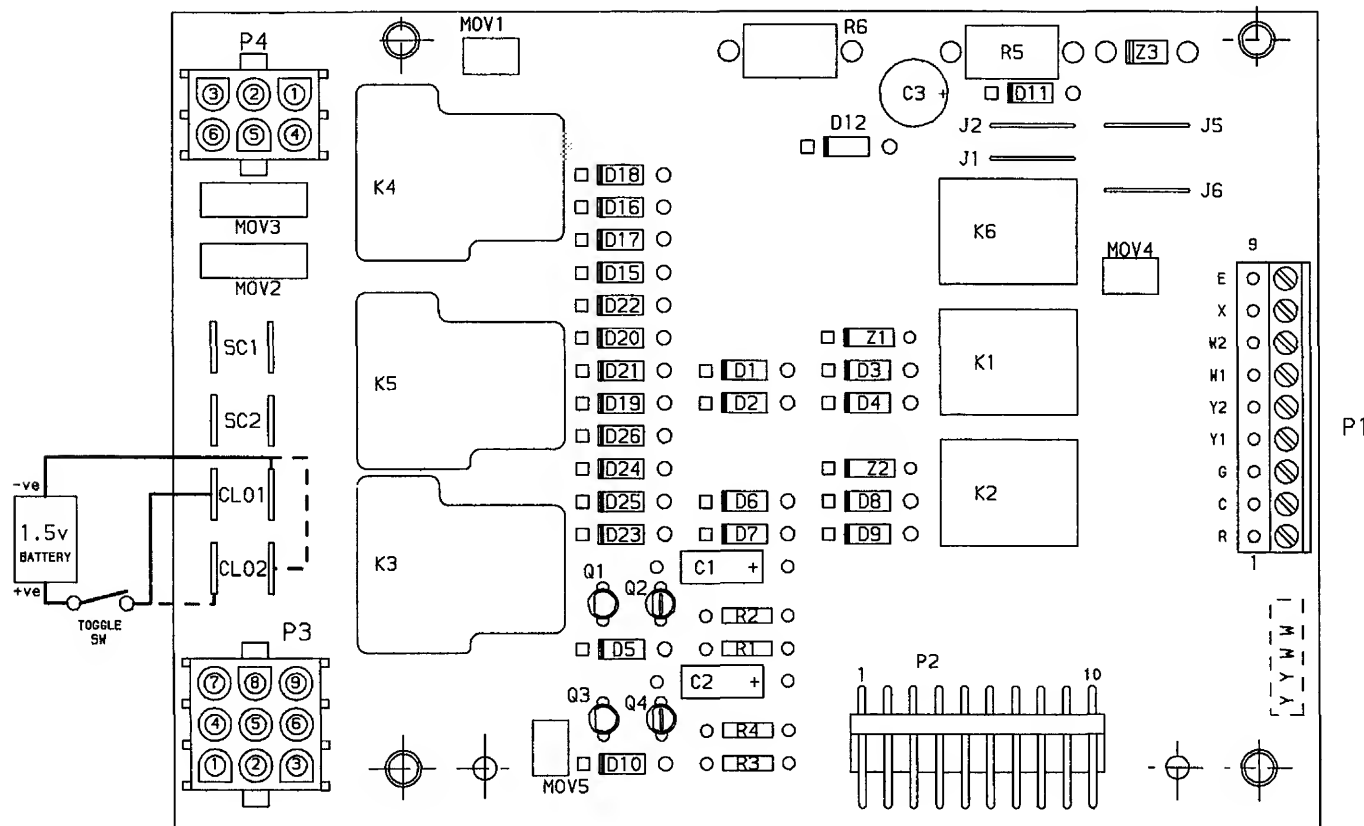

Fig. 34 – Compressor Lockout Connections
- Turn unit power off. Use a toggle switch to connect a fresh 1.5-v battery to the terminals marked CLO1 as shown in Fig. 34.
The negative (- Ve) pole of the battery must be connected to the inner terminal and the positive (+ Ve) pole must be connected to the outer terminal as shown in Fig. 34.
- d. Turn unit power off. Connect a fresh 1.5-v battery to terminal marked CLO2 as shown in Fig. 34.
The negative (– Ve) pole of the battery must be connected to the inner terminal and the positive (+ Ve) pole must be connected to the outer terminal as shown in Fig. 34